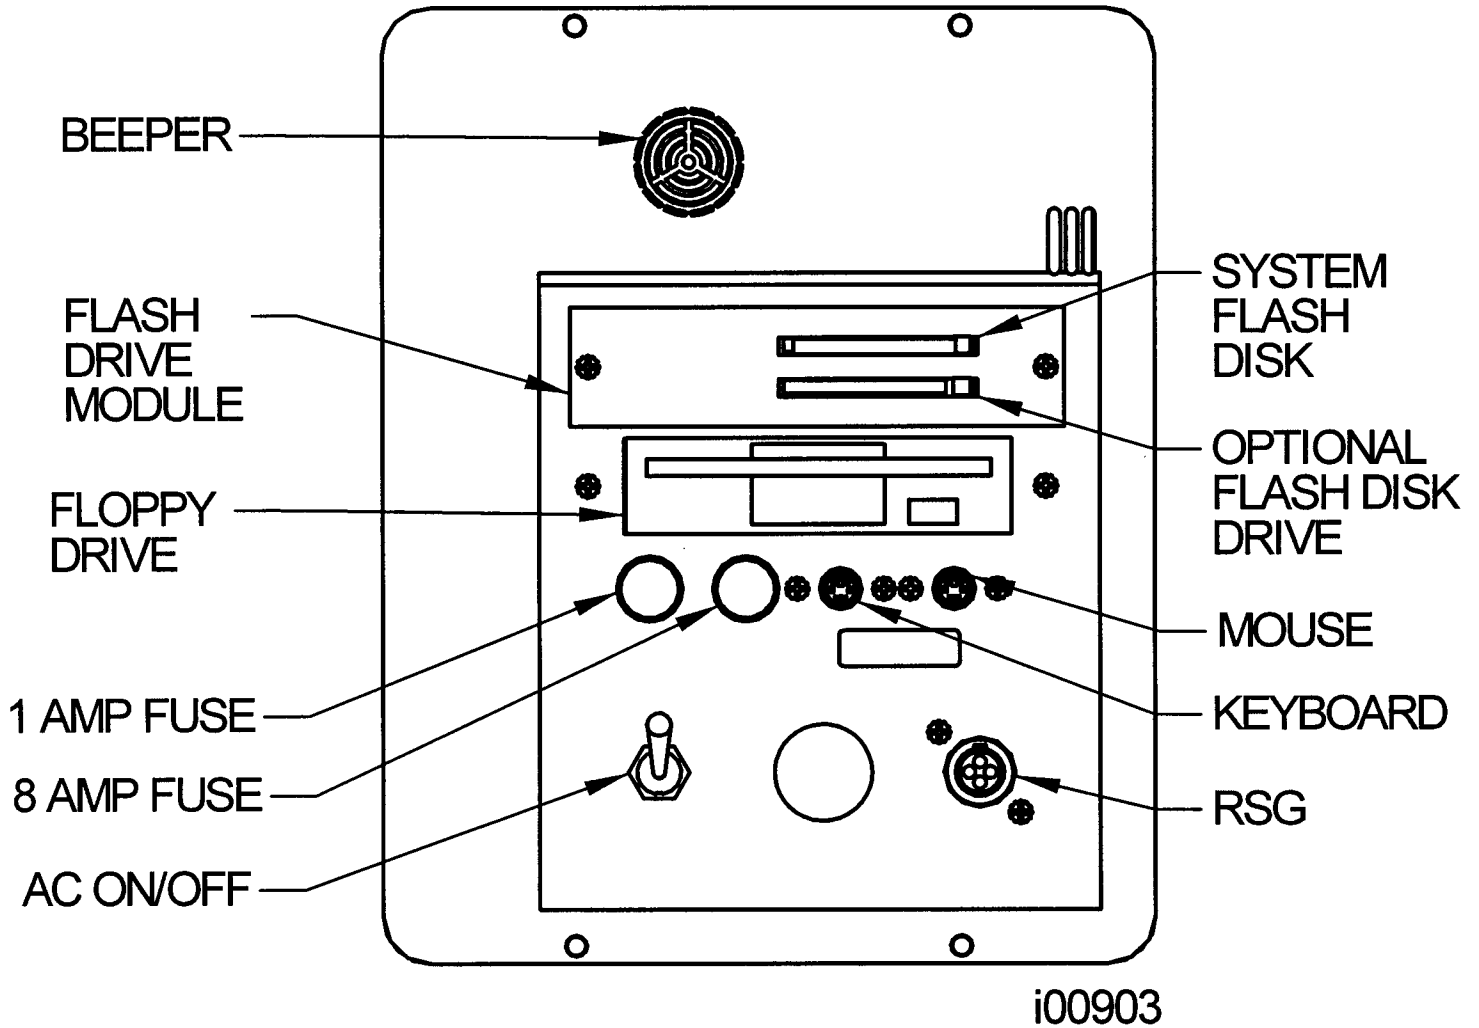

FIGURE 3.3 The ProtoTRAK SL right side
3.3 Pendant Right Side (See Figure 3.3 for a description of the connectors and features located on the right side of the display panel.)